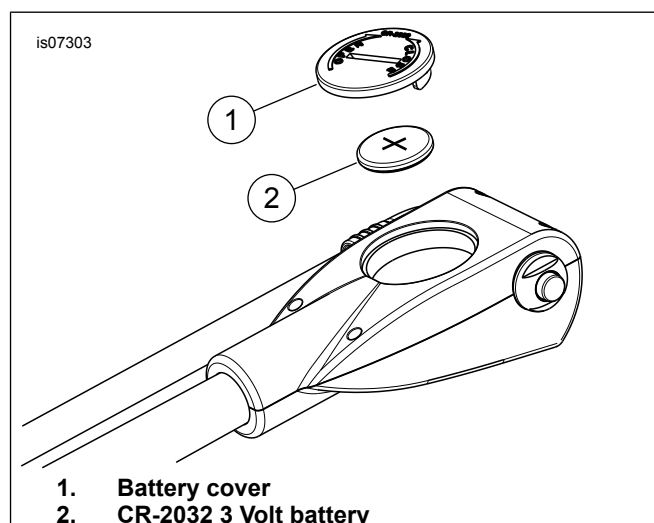

Figure 1. CR-2032 3 Volt Battery
- See Figure 1. The pump is packaged with a battery protector. Before the pump display will operate, the battery protector must be removed. Remove cover (1) and peel the protector from the battery (2).
- When necessary, replace the battery, by removing the cover (1) and replacing the battery. Replace with a CR-2032 type battery.